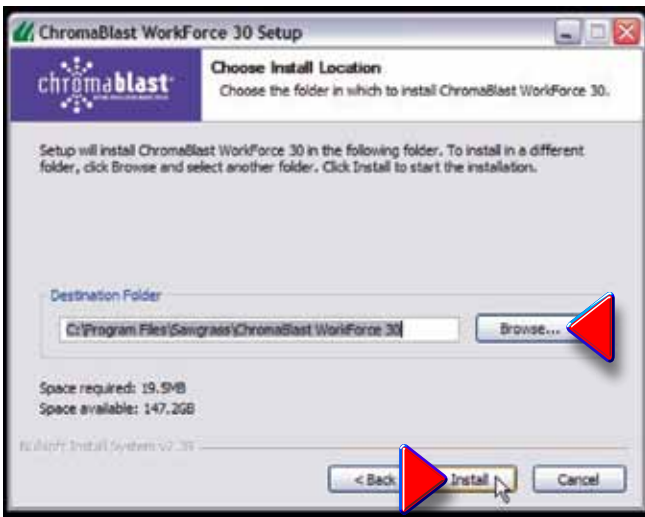
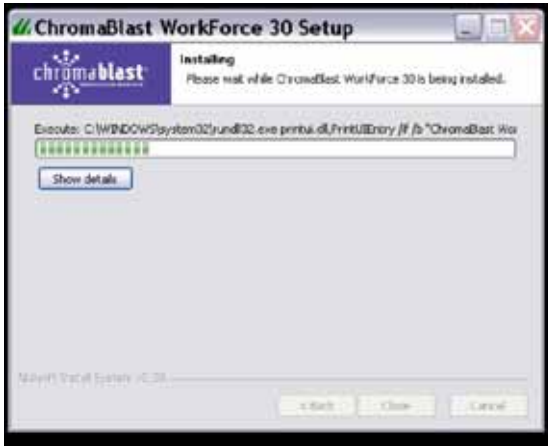

Figure 4
Figure 5
9. If you have not previously registered the **ChromaBlast Driver**, you will be prompted to do so. Registering is the only way to take full advantage of the advanced features in **ChromaBlast Driver**. If you choose to register later, select “**Register Later**” and click “**Next**” to proceed with the installation. (Fig. 4) You will have five days to use the program before registration will be required for continued usage of the software. After five days, if you attempt to print using the **ChromaBlast Driver Software**, you will be prompted to register. (Fig. 5)